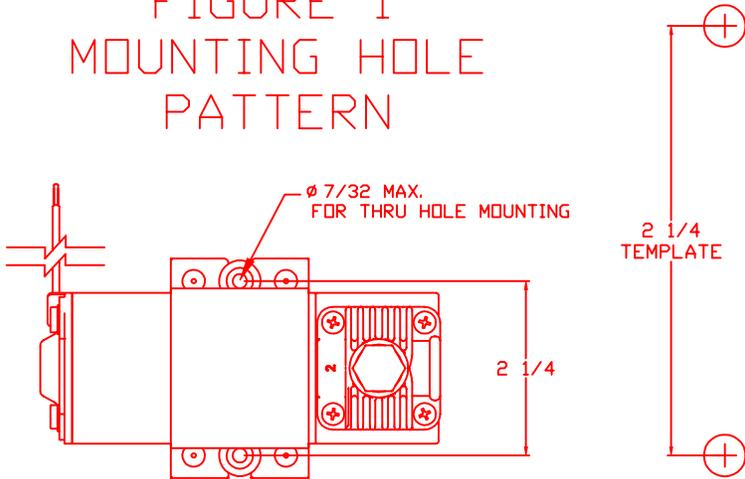

FIGURE 2
1. As shown in figure 2, slide the (2) grommets (item#3) into slots. Next push the (2) brass eyelets (item#2) into the grommets. Pull the (4) bumpers (item#5) through the (4) round holes on the bracket.
4. To mount compressor, insert 10-32 bolt (item#1) through the brass eyelet and through the 7/32 in. hole. Secure with the 10-32 nut (item#4) as shown in figure 2. **Do not overtighten mounting bolts.**